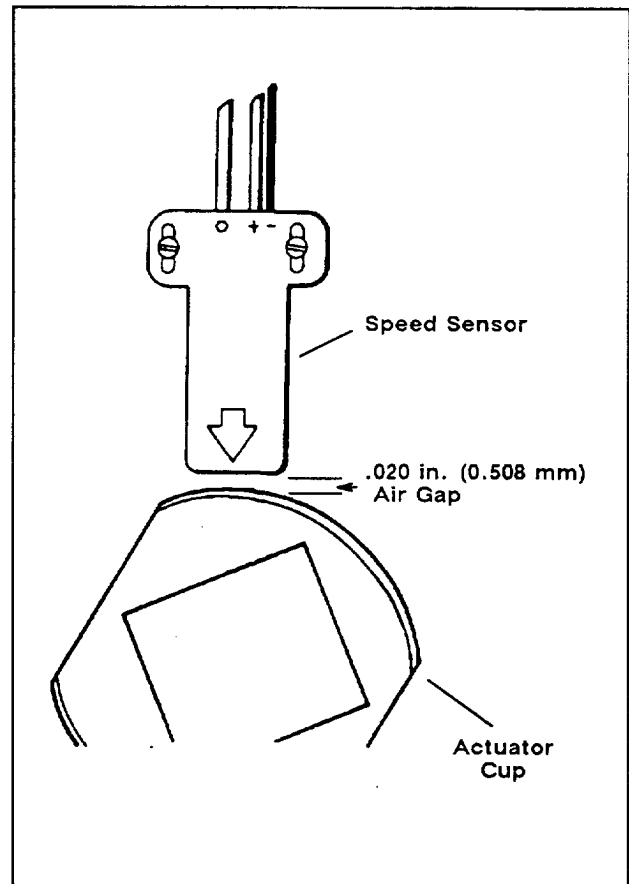

Figure 8. Speed Sensor Air Gap
4. Reconnect speed sensor leads. Set speed sensor air gap at 0.020 in. (0.508 mm). See Figure 8.